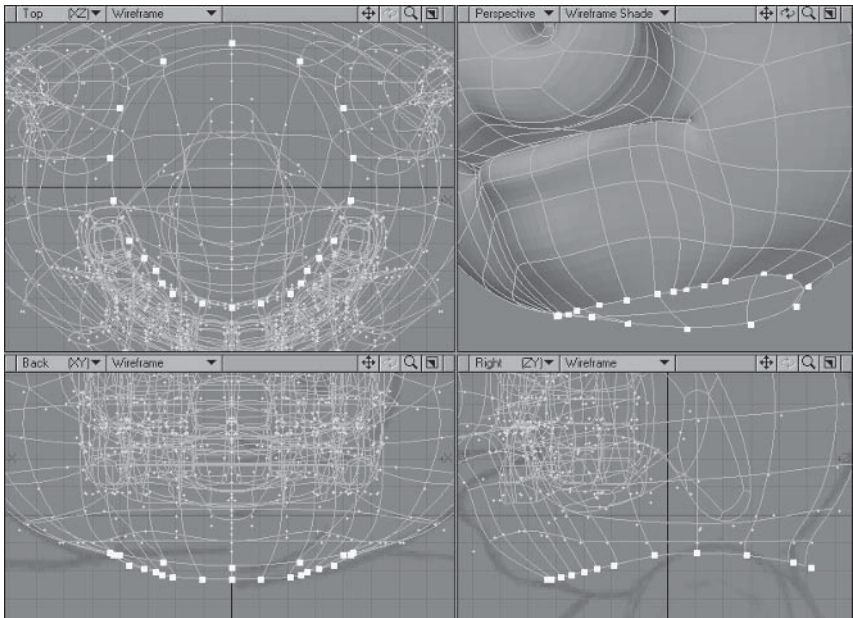

Figure 5.3-124. Adjusting the start of the neck.
- 1. Select the bottom row of points and stretch and adjust them to match Figure 5.3-124.